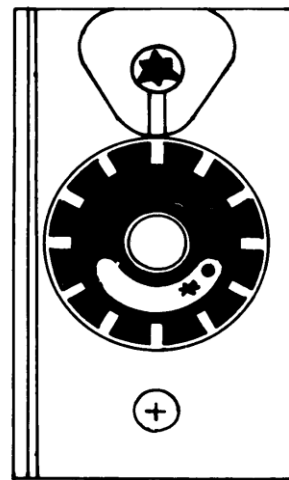

Fig.3
- Turn the regulating button to the required level from 1 to 7 (Fig.3), the main burner is burnt.